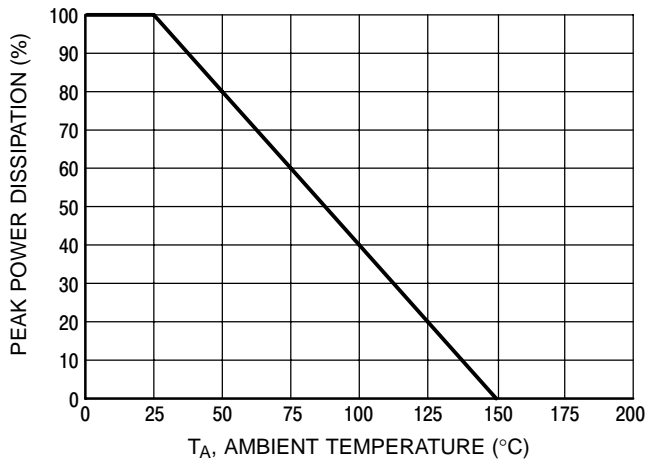

Figure 1. Pulse Derating Curve
1. Nonrepetitive current pulse per Figure 1 (Pin 5 to Pin 2)
- Nonrepetitive current pulse per Figure 1 (Pin 5 to Pin 2)